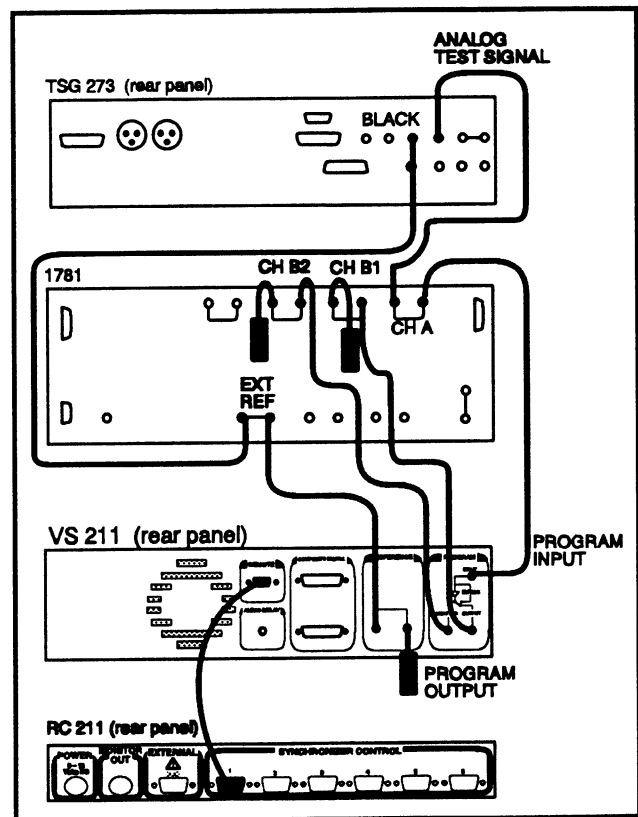

Fig. 4-17.
- a. Set-up the equipment as shown in Fig. 4-17.